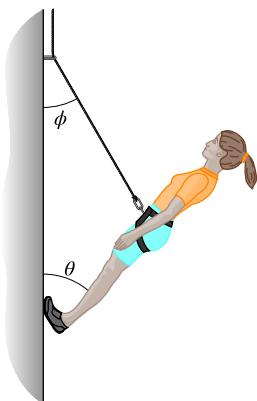

Figure 12.27 Problem 24.
**24 M BIO GO FCP** In Fig. 12.27, a climber with a weight of 533.8 N is held by a belay rope connected to her climbing harness and belay device; the force of the rope on her has a line of action through her center of mass. The indicated angles are  $\theta = 40.0^\circ$  and  $\phi = 30.0^\circ$ . If her feet are on the verge of sliding on the vertical wall, what is the coefficient of static friction between her climbing shoes and the wall?